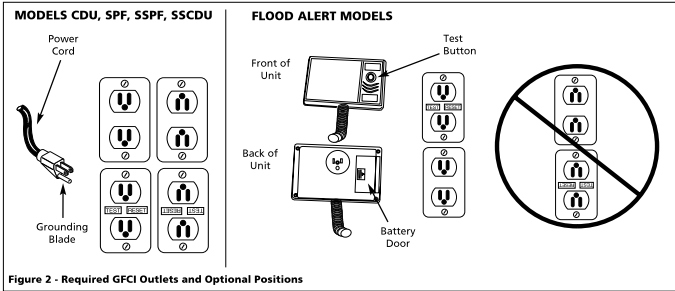

Figure 2 - Required GFCI Outlets and Optional Positions
FLOOD ALERT MODELS (SEE FIGURE 2)
1. A ground fault circuit interrupter (GFCI) is required (See Figure 2).
3. Insert the pump power cord plug directly into outlet (See Figure 2).
1. Unit should be plugged into outlet as shown in Figure 2. Do NOT plug unit in upside down. Doing so may cause pump to unplug. If your receptacle is upside down, have a qualified electrician reposition the outlet before installing the unit.